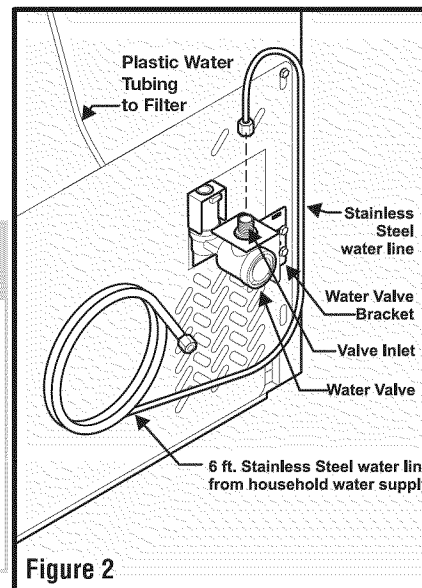

Figure 2
- If you use stainless steel tubing - The nut and ferrule are already assembled on the tubing. Slide compression nut onto valve inlet and finger tighten compression nut onto valve. Tighten another half turn with a wrench; DO NOT over tighten. See Figure 2.